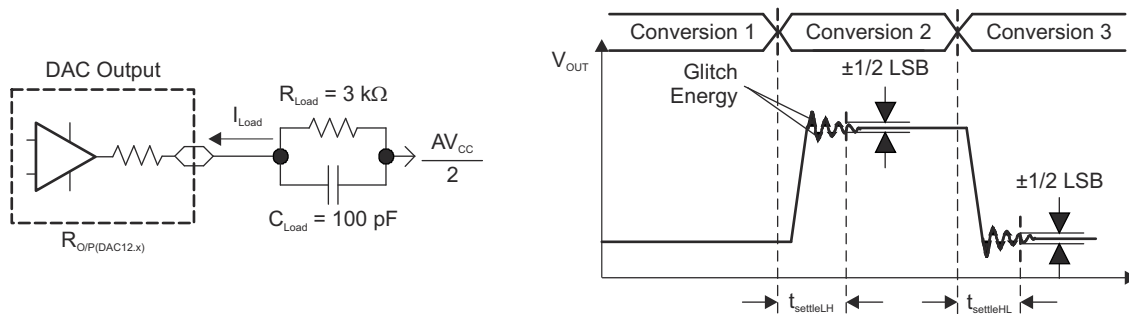
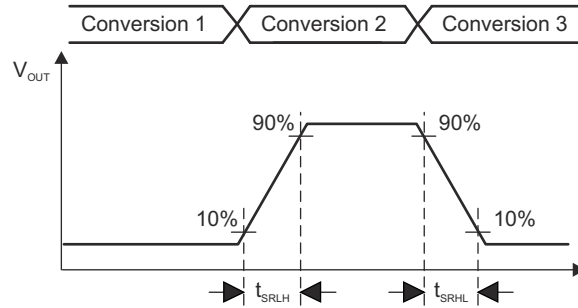

图 8-19. Settling Time and Glitch Energy Testing
图 8-20. Slew Rate Testing
VREF = VCC, DAC12IR = 1 (see 图 8-19 and 图 8-20), over recommended ranges of supply voltage and operating free-air temperature (unless otherwise noted)
| t ON DAC12 on time                   | DAC12_xDAT = 800h, Error V(O) < ±0.5 LSB (1) (see 图 8-19) | 2.2 V, 3 V      | 60   |      | 120 | μs   |
- (1) RLoad and CLoad connected to AVSS (not AVCC/2) in 图 8-19.
- (2) Slew rate applies to output voltage steps ≥ 200 mV.